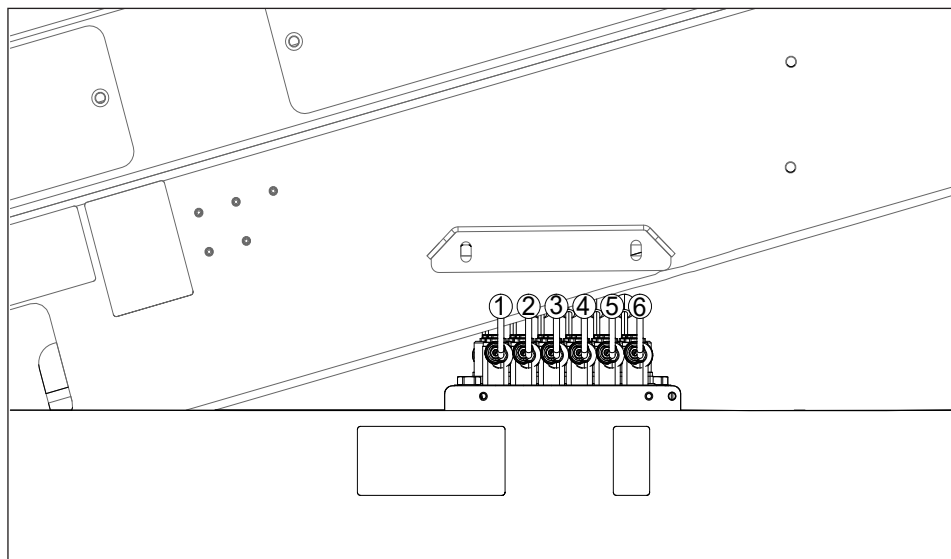

Figure 4.79 - Control Valve Bank LHS
8. Locate the valve bank on the LHS of the machine (Item 2, Reference: Figure 4.79).